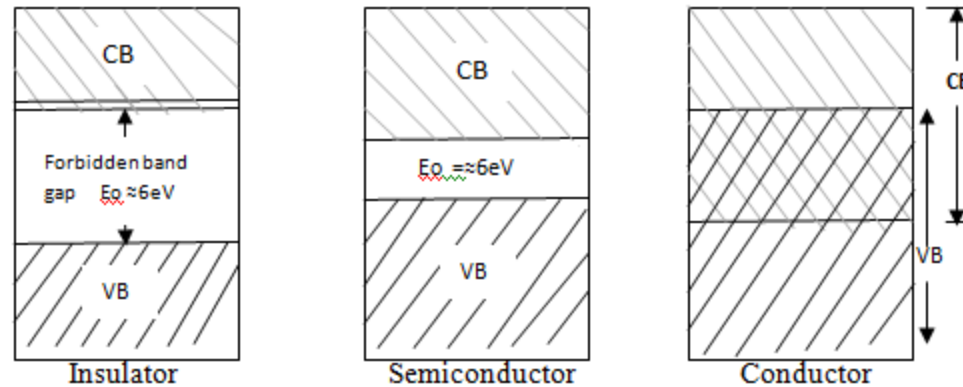

Fig.1: Energy band diagrams for insulator, semiconductor and conductor
Insulator: An insulator is a material that offers a very low level (or negligible) of conductivity when voltage is applied. Ex: Paper, Mica, glass, quartz. Typical resistivity level of an insulator is of the order of 10^{10} to 10^{12} $\Omega\text{-cm}$. The energy band structure of an insulator is shown in the fig.1.
- The Valance and conduction bands overlap (fig.1) and there is no energy gap for the electrons to move from valance band to conduction band. This implies that there are free electrons in CB even at absolute zero temperature (0K). Therefore at room temperature when electric field is applied large current flows through the conductor.